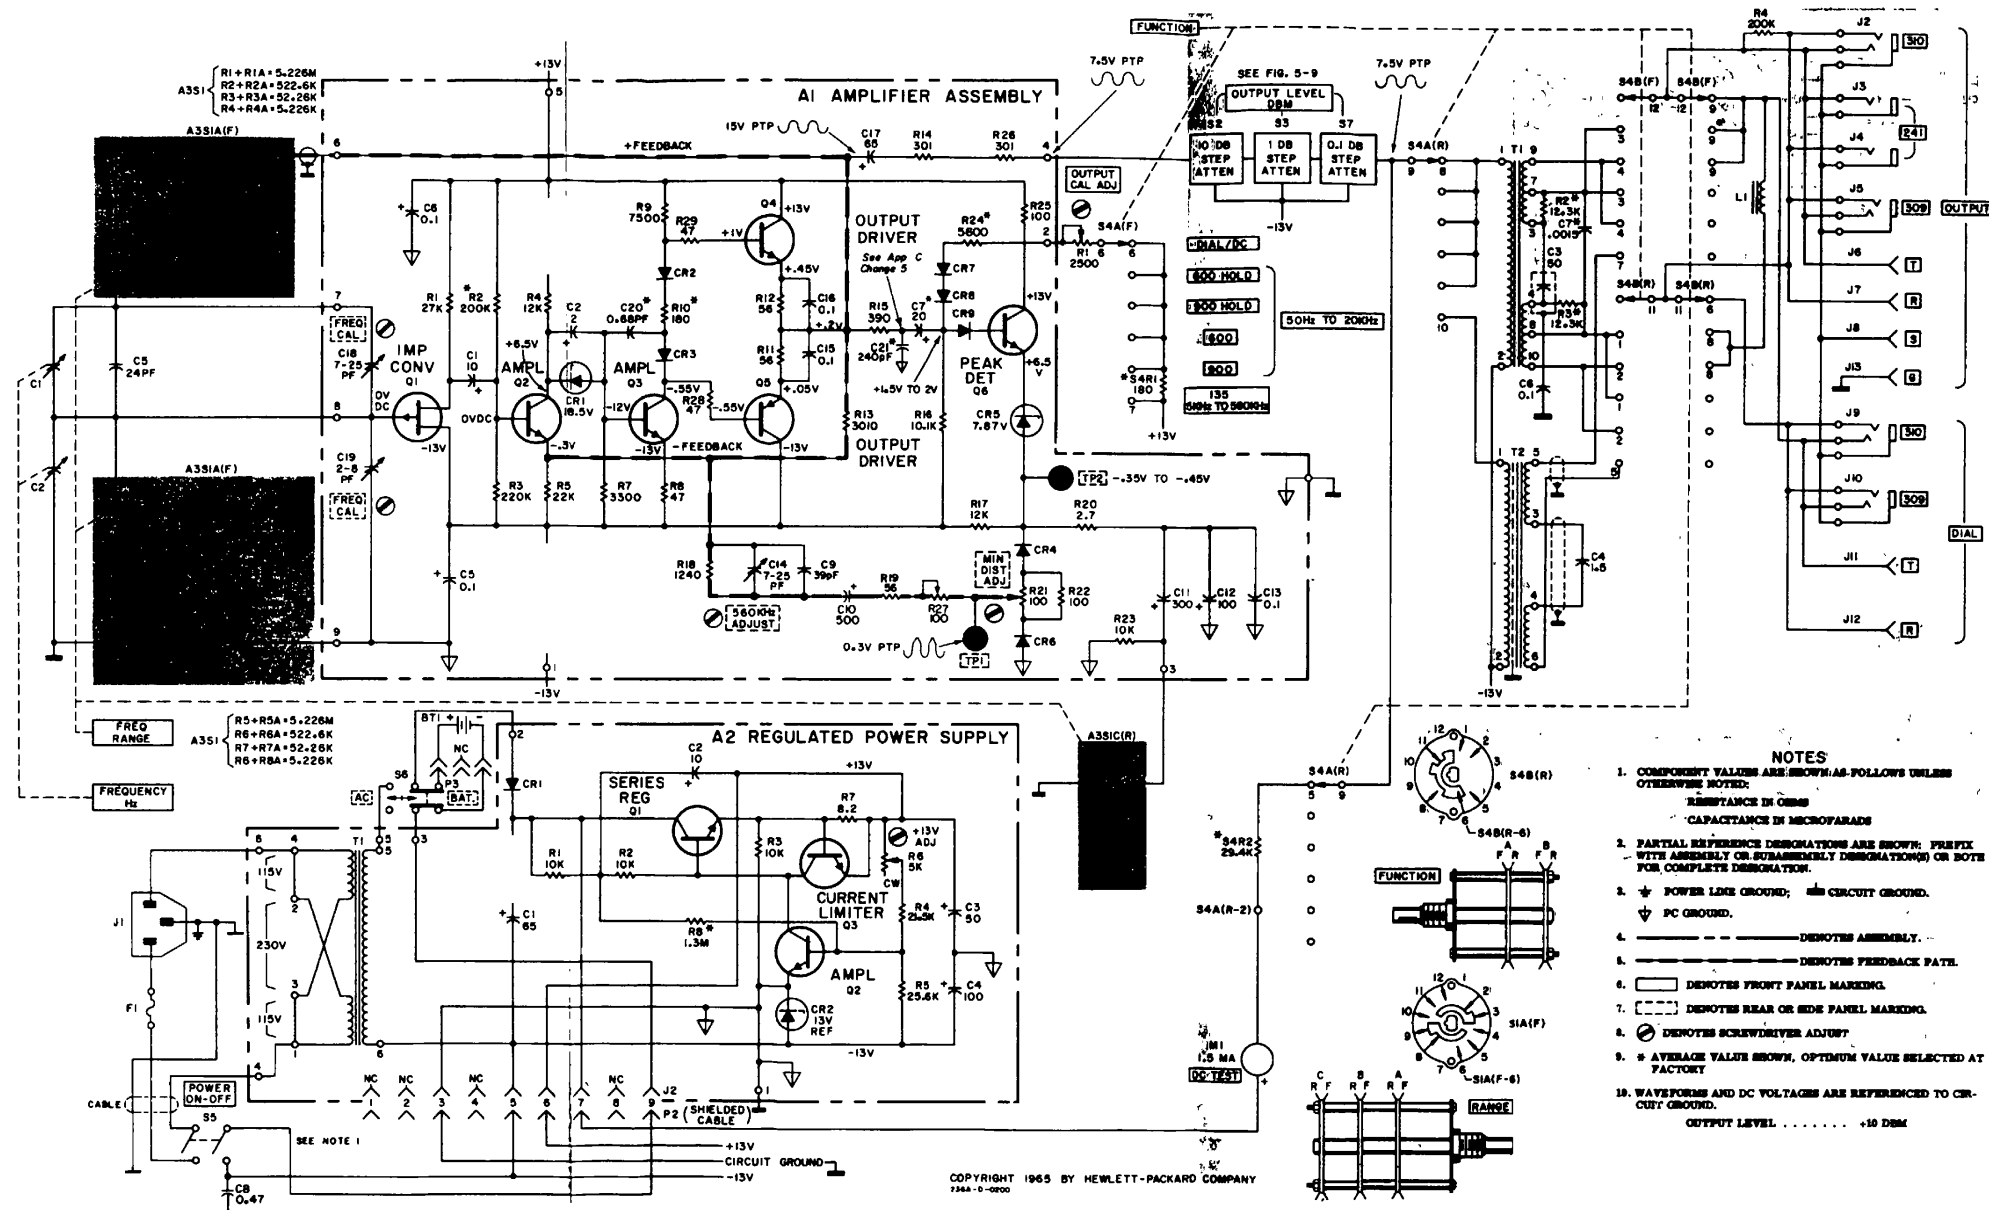
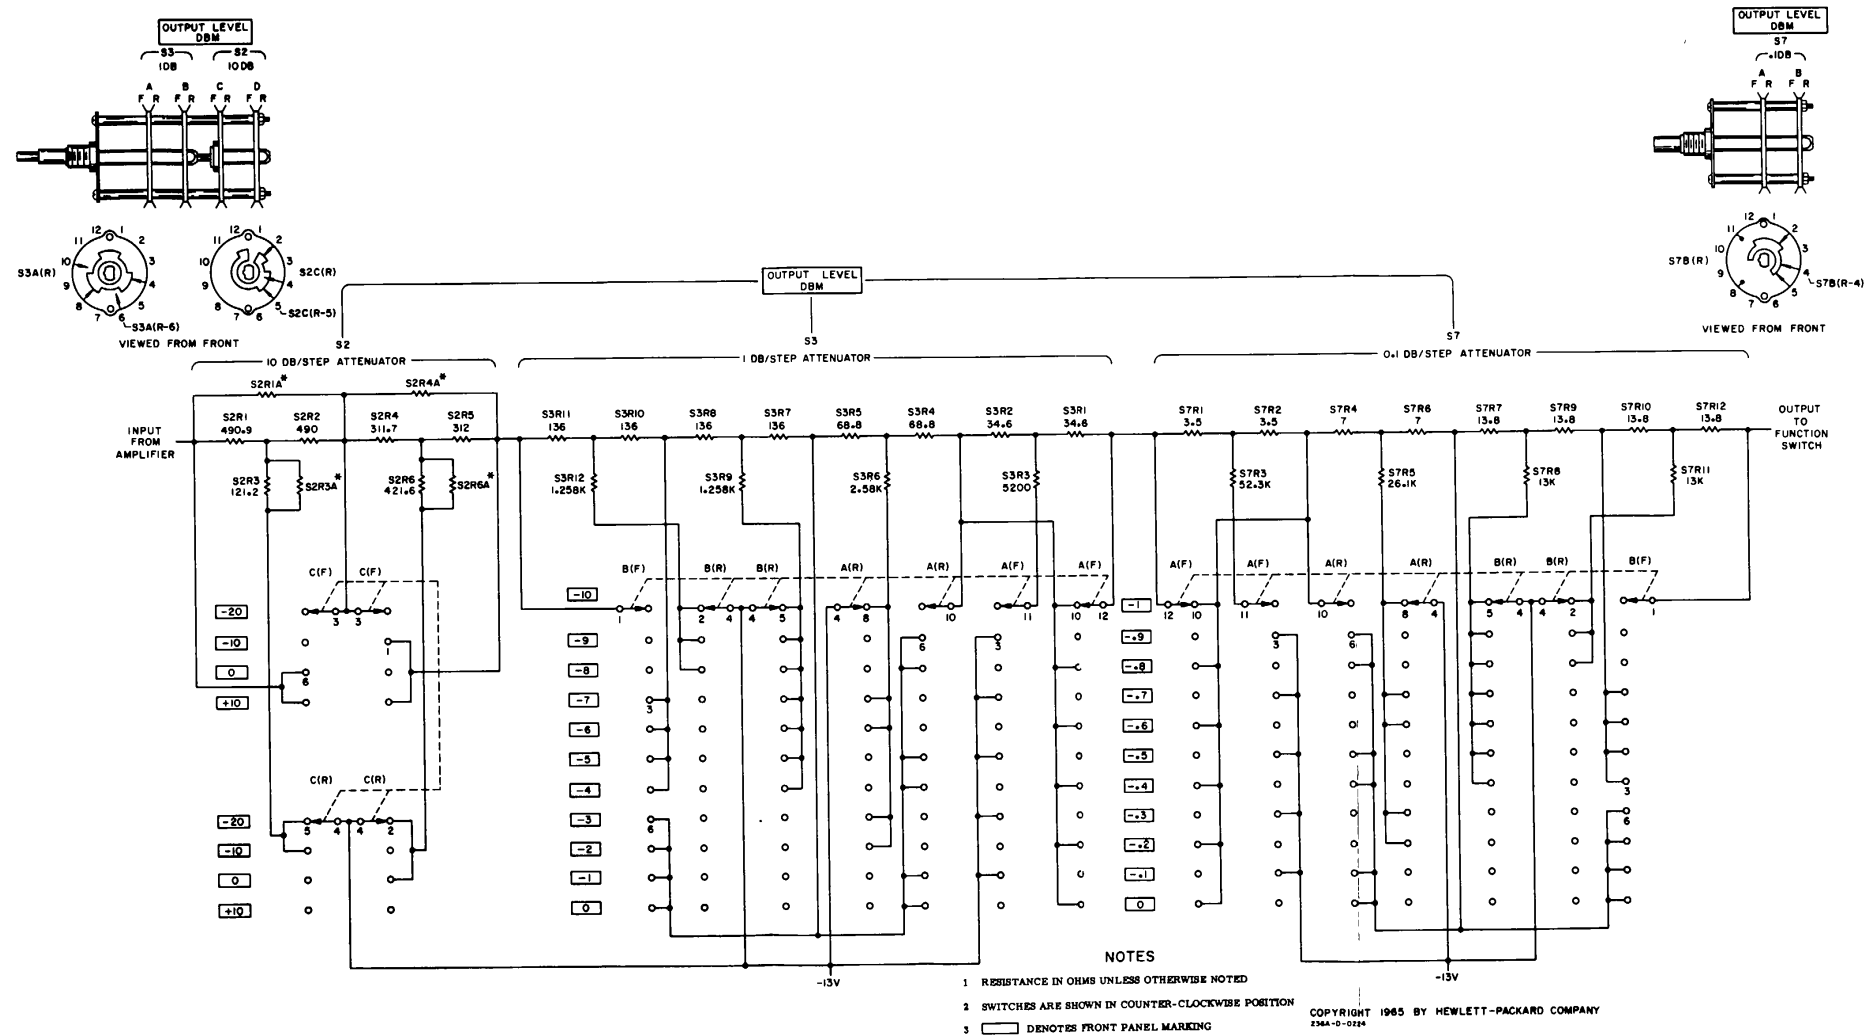

Figure 5-8. Model 236A Schematic Diagram
Figure 5-9. Model 236A Attenuator Schematic
Oscillator output level low regardless of OUTPUT LEVEL setting.	Check amplifier circuit A1Q1-Q5. Refer to Figure 5-8 for typical dc voltage.
(1) Measure the dc voltage at the negative side of A2C4 and the positive side of C3. Voltages should be -13 V and +13 V respectively.	If +13 V is incorrect, check A2R6 adjustment. If -13 V is incorrect, check A2CR2. If both voltages are incorrect, check A2Q1, Q2, Q3 and A2CR1. If BAT mode is being used, check battery BT1. If ac mode is used, check transformer T1. If voltages are correct, proceed to (2).
(2) Observe ac waveform at the low side of S7R12 (red/white/yellow wire from S7 to S4).	Figure 5-8 describes the waveform which should be obtained. If waveform appears correct, proceed to (3); if not, go directly to (4).
(3) Check transformer T1. Reset FUNCTION to 135, and check transformer T2.	If transformers check OK, malfunction is in output switches or connectors.
(4) Observe ac waveform at amplifier output (high side of S3R1).	Figure 5-8 describes the waveform which should be obtained. If correct, proceed to (5); if amplitude is incorrect, proceed to (6); if frequency is incorrect, proceed to (7).
(5) Check 10 dB, 1 dB and 0.1 dB attenuators using the procedure outlined in Paragraph 5-18.	This check should isolate the malfunction to one of the attenuators. Analysis of the defective range should further isolate the problem area.
(6) Check amplifier assembly A1Q1-Q6. Check adjustment of R1.	Refer to Figure 5-9 for typical dc voltage levels. See Adjustment and Calibration Procedure for OUTPUT CAL ADJ.
(7) Check adjustment of A1C14, A1C18, A1C19; and check A1C1, A1C2 and A3R1 through A3R8A.	Refer to Adjustment and Calibration Procedure Frequency Calibration.